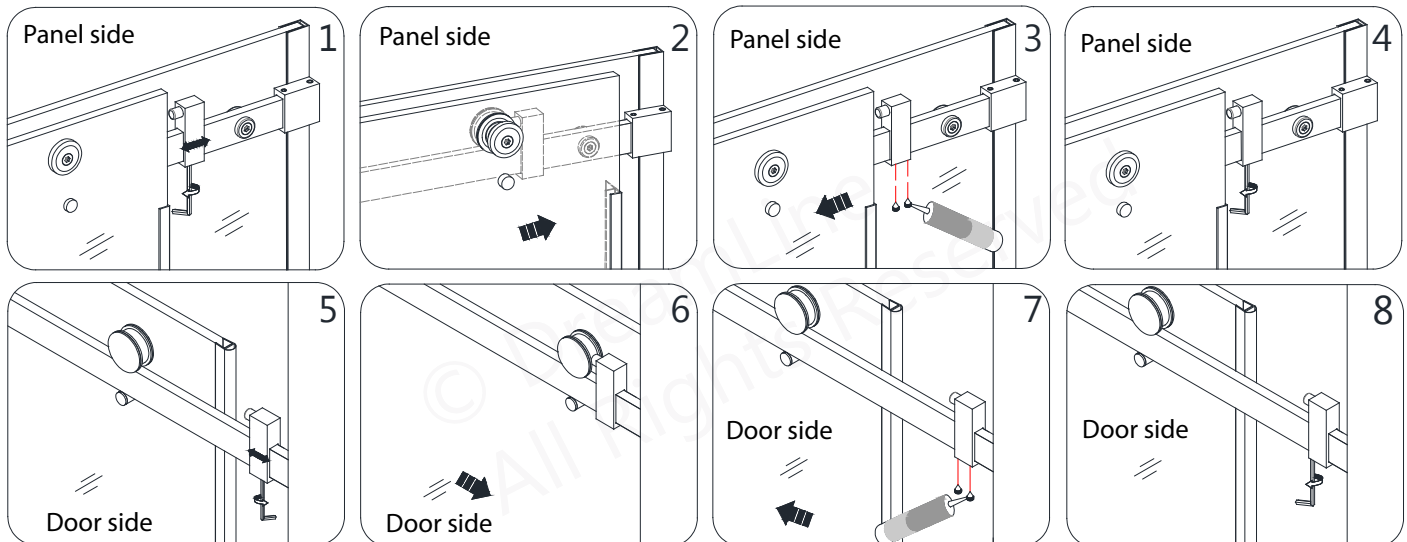

Fig 36b
4. Reinsert the set screws into the **Stopper (#05)** and fully tighten. (Fig 36b)